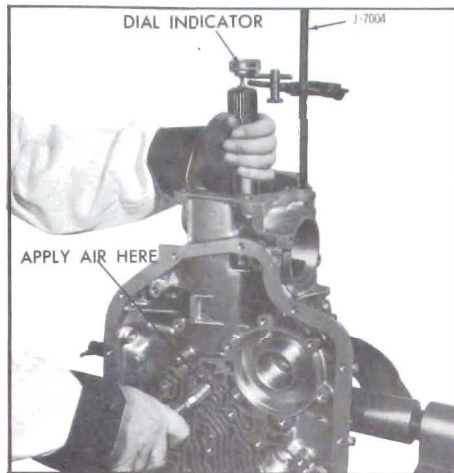

Figure 5-720
lows: See Figure 5-720.
a. Install J-7004 into an extension housing attaching bolt hole. See Figure 5-720.